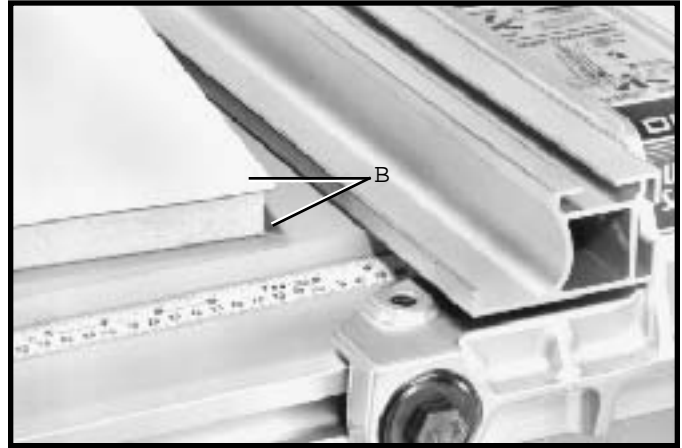

Fig. 110
When ripping material with a veneer facing and the material is not thick enough for the veneer to extend over the lip of the fence or if the veneer facing (B) is on both sides of the material, as shown in Fig. 110, the fence can be positioned slightly above the surface of the table. The veneer can be placed between the fence and the table or the veneer can straddle the fence with the material